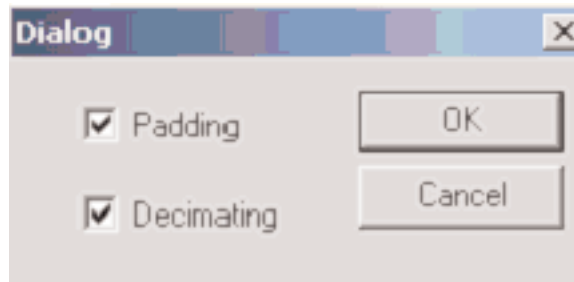

Figure 7: Padding and Decimating Option
- 9. Now that the IR Analysis has been selected, a prompt will appear asking the user if they would like the data to be padded and decimated. In general, both of these options should be selected, see Figure 7. Click OK.